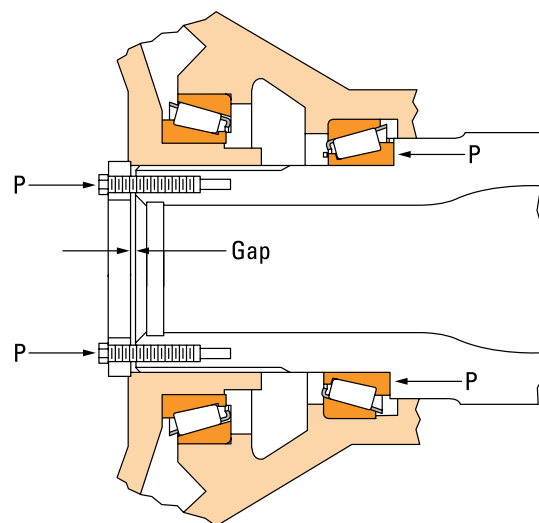

Figure 10. Planetary Drive Wheel
To establish the method for a given machine configuration, a dimensional reference condition known as the deflection constant must first be determined. The deflection constant is simply the (averaged) system deflection, resulting from a known "set-up" load applied through the bearings, as determined from the testing of several preproduction units. This system deflection is typically gauged by measuring a shim gap (Figure 10).
The selection of the final shim pack thickness for each unit can be simplified by the use of a shim chart (Figure 11). The shim pack thickness indicated on the chart includes the effect of the previously established ACRO-SET constant. Note that the shim chart facilitates proper shim pack determination based on shim gap measurements taken at two positions 180° apart. The planetary drive wheel assembly (Figure 10) will be used to illustrate the ACRO-SET technique.
3. Select the proper shim pack thickness (from the shim chart) equal to the measured gap plus the predetermined ACRO-SET system constant (that was established from pretested assemblies). The Figure 10 chart averages the two readings and provides the final shim pack thickness. In this case, 0.66 at 180 degrees and 0.61 at 0 degrees gives a 0.97 thick shim pack.